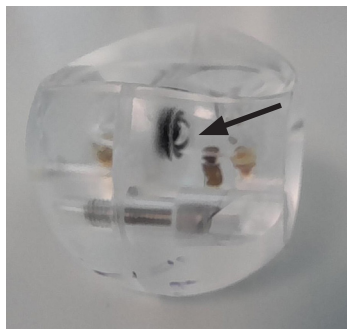

Figure 9. Bubble inside fluid cell assembly.
3. If a bubble forms within the fluid chamber (Figure 9), use the force of the fluid being ejected from the pipette to displace it. When the bubble detaches and reaches the surface of the chamber, it can be removed with a pipette tip.